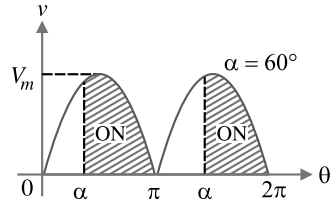

Fig. 18.19
**Solution.** Let  $v = V_m \sin \theta$  be the alternating voltage that appears between centre tap and either end of the secondary. Let  $\alpha$  be the firing angle as shown in Fig. 18.19. This means that SCR will conduct at  $\theta = \alpha$ . Clearly, SCR circuit will conduct from  $\alpha$  to  $180^\circ$ .